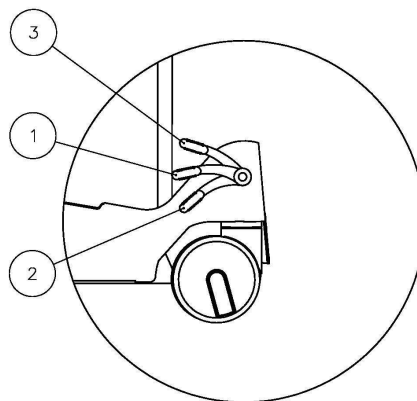

Fig.7
- Upper - direction blockade (fig.7, pos.3),
- Middle (horizontal) - blockade released (fig. 7, pos.1),
- Lower - all castors blocked (fig.7, pos.2).